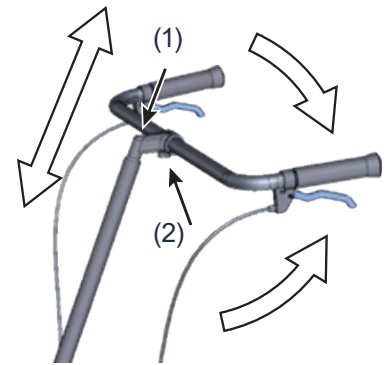

Fig 32.
1. Loosen screw (1) Fig 32.
1. Loosen screw (2) Fig 32.